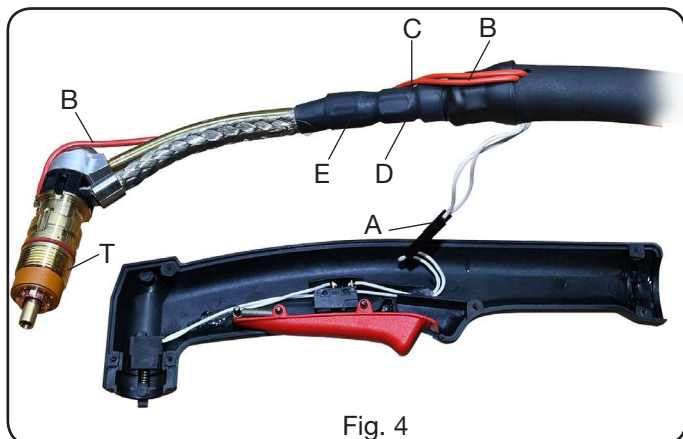

Fig. 4
- With reference to Fig.4, lift the welding torch body **T** with cable and disconnect connector **A** (push-button) and
- Connect connector **B**, introduce the welding torch body into the grip seat and then connect connector **A** by introducing it inside the grip as shown in figure 4.
- With reference to Fig.4, lift the welding torch body with cable and disconnect connector **A** (push-button) .
- Replace the grip with push-button, connect connector **A** and introduce it inside the grip, as shown in figure 4, and then position the welding torch body with cable inside the **RH** grip seat.
- Unscrew the 6 screws **V** Fig.3 and remove the **LH** grip. With reference to Fig.4, lift the welding torch body with cable and disconnect connector **A** (push-button) and connector **B** (pilot arc).